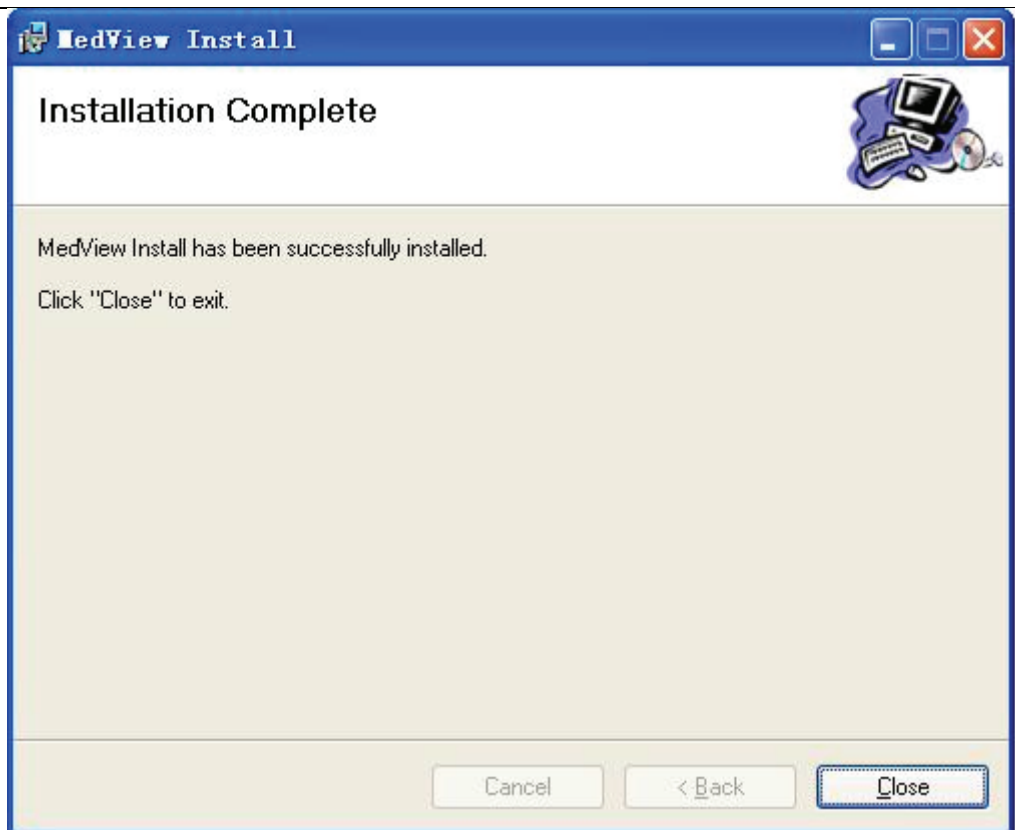

Figure 2-6
(6) Click “Close” button in Figure 2-6, the shortcut icon will be created on the desktop, as shown in Figure 2-7. The shortcut and Uninstall MedView icons are added into “Start” menu on the left bottom of desktop, as shown in Figure 2-8.